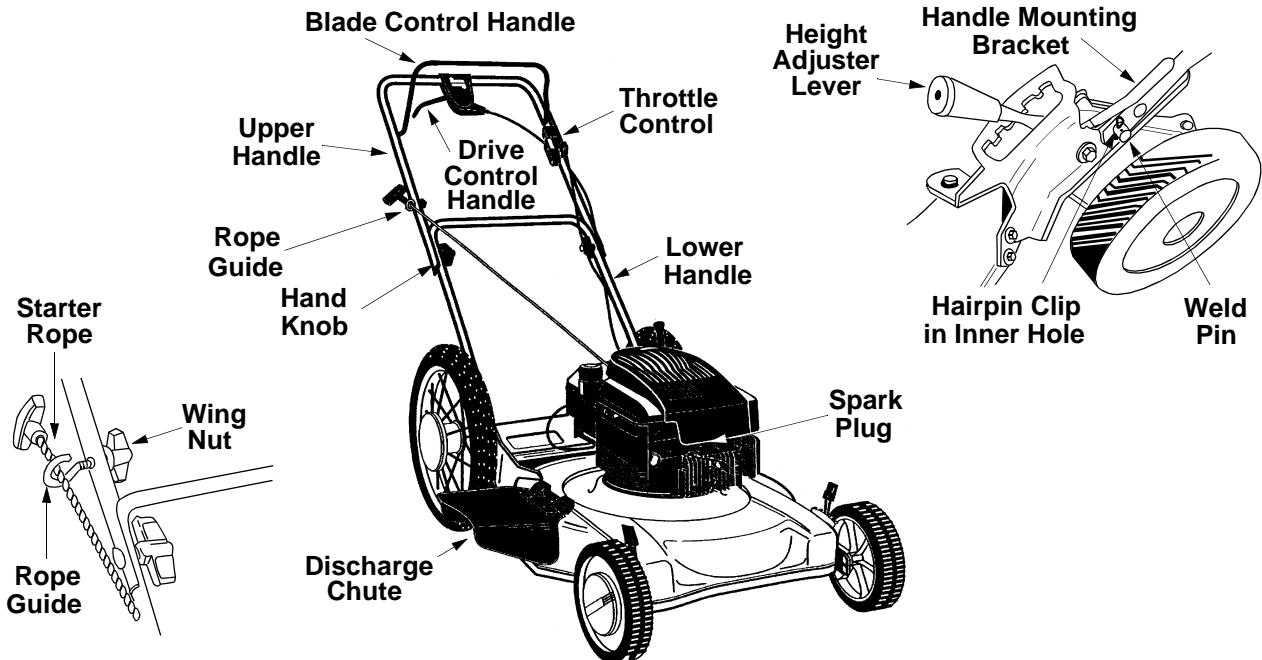

Figure 4
6. Using a pair of pliers, squeeze one leg of the lower handle against the handle mounting bracket. Insert the hairpin clip into the inner hole on the weld pin. Repeat on other side. See Figure 4.
7. The rope guide is attached to the right side of the upper handle. Loosen the wing nut which secures the rope guide. See Figure 4.
9. Slip the starter rope into the rope guide. Tighten the wing nut. See Figure 4.